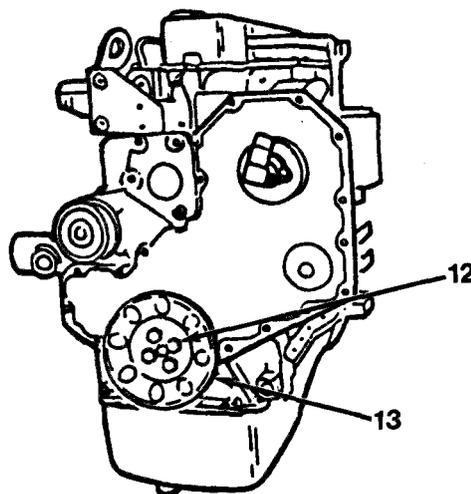

Figure 6-4
10. Remove four capscrews (12) and crankshaft pulley (13, Figure 6-4).